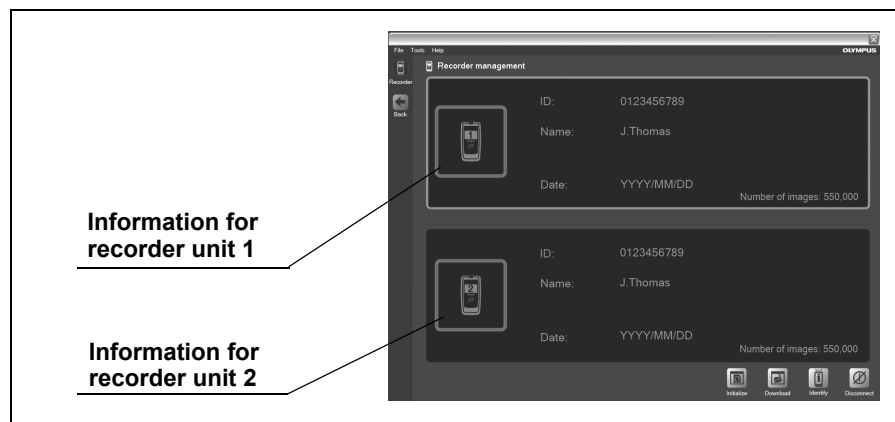

Figure 5.8
- If two recorder units are connected to the workstation, information for both units is displayed (see Figure 5.8).